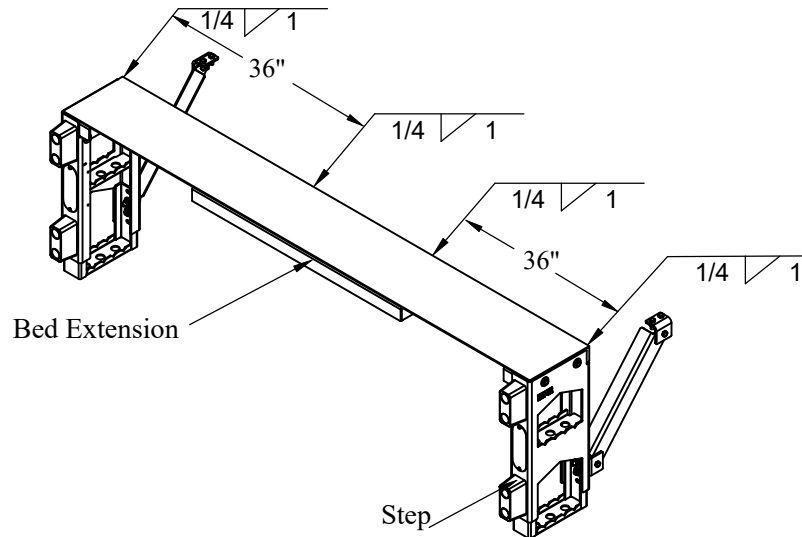

Figure 11: Bed Extension - Tacking Locations.
3. **Tack Weld** bed extension into position with four one inch welds (Figure 11). The bed extension will be finished welded later.